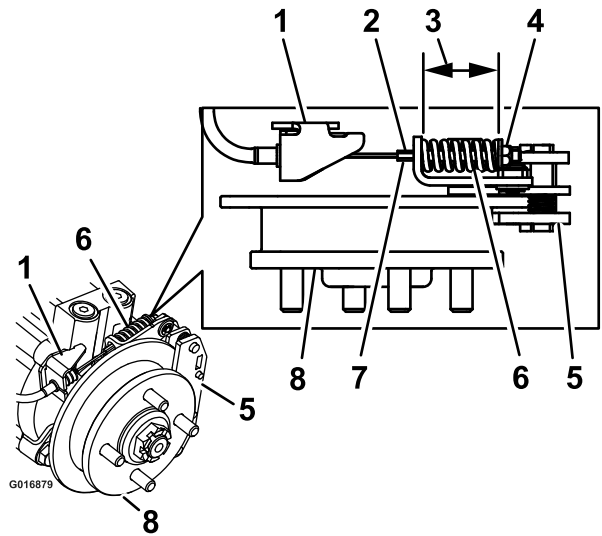

Figure 74
9. Hold the threaded-rod end with a tool, and adjust the locknut until the spring length is between 3.8 and 4.0 cm (1-1/2 and 1-9/16 inches) as shown in Figure 74.